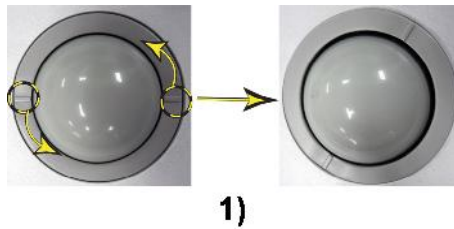

Figure 8-10 Trackball Disassembly
- 1.) Rotate the retainer counterclockwise until it can be removed from the keyboard, refer to Figure 8-10 on page 8-4 .